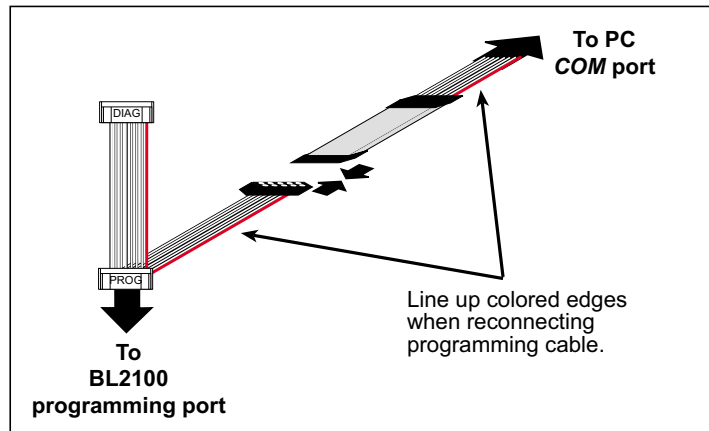

Figure C-7. Reconnect Programming Cable
3. Line up the colored edges of the programming cable when reconnecting the programming cable. Reconnect the programming cable as shown in Figure C-7, being careful to align the pins with the jack